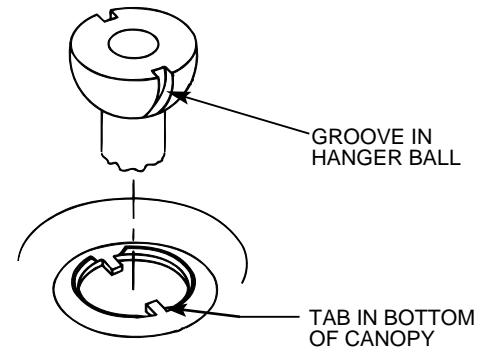

Figure 5C. Aligning Tab & Groove
B. Before hanging the fan from the ceiling plate align and engage the (2) tabs in the bottom of the canopy with the (2) grooves in the hanger ball. See Figure 5C.
NOTE: For the ball hanging fan configuration make sure the (2) grooves in the ball are engaged with the (2) tabs in the canopy. Failure to do so could result in the fan falling. See Figure 5C.